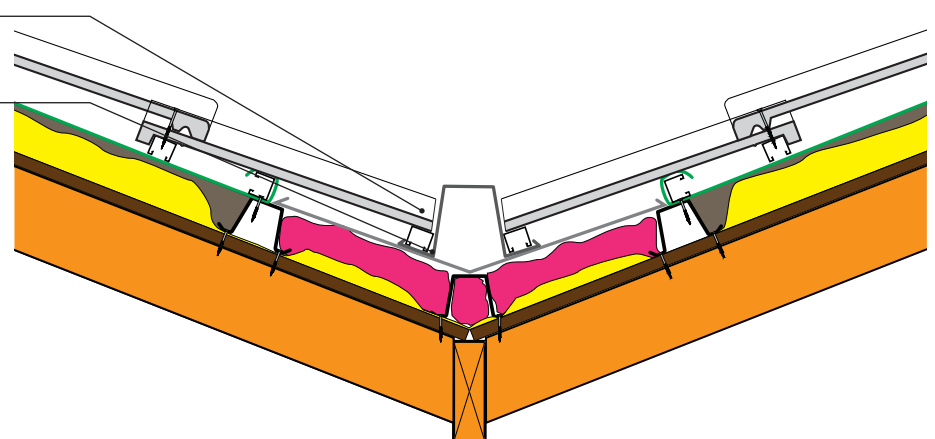

Figure 6 | Valley section with tiles
Installation	Installed on top of valley iron (item 21) as shown in figure 6